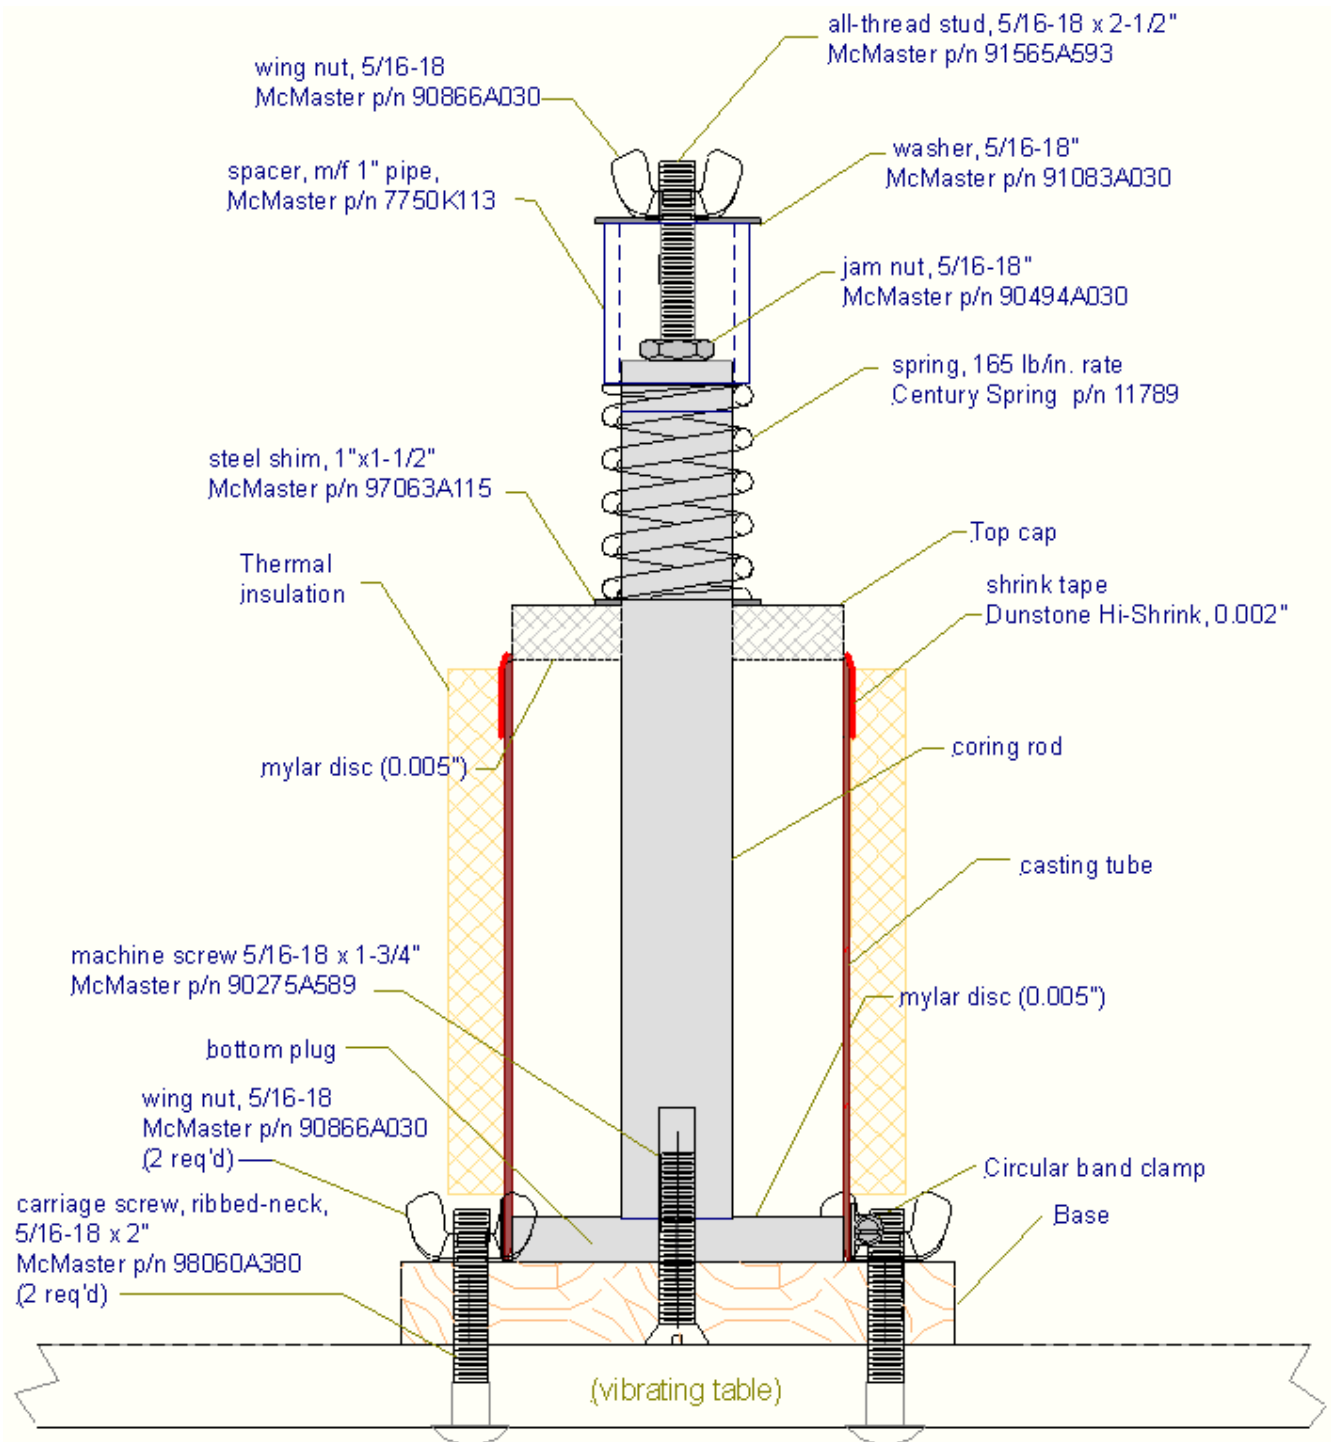

Figure 2 – Casting mould arrangement.
17. As is shown in Figure 2, place steel shim, spring and spacer over coring rod.